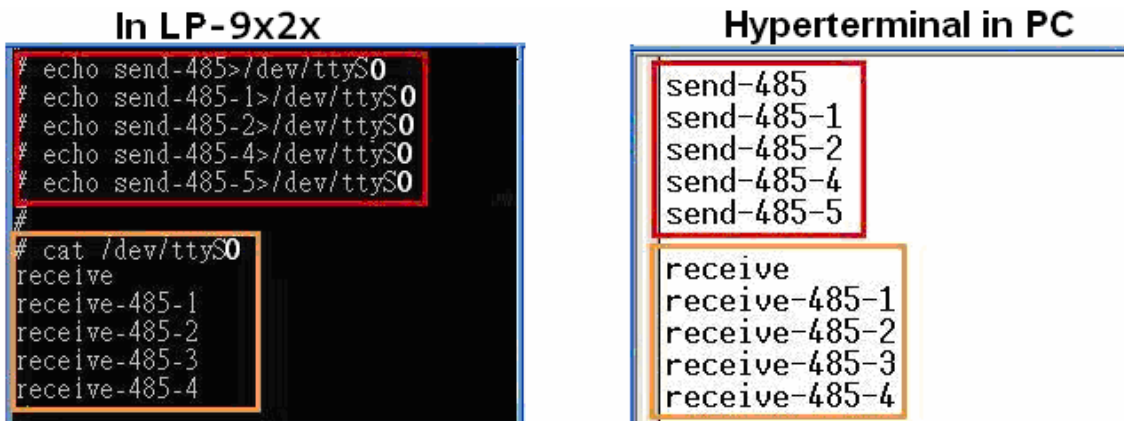

Fig. 8-3
- Test using command line: (PC ↔ i-7520 ↔ ttyS0 on the LP-9x21 - see Fig 8-3)